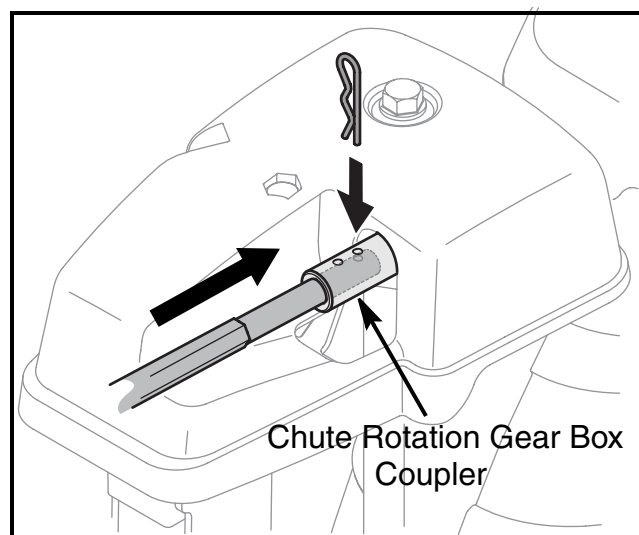

FIGURE 18
30. Push the hex rod toward the control panel until the hole in the hex rod lines up with the hole in the chute rotation gear box coupler closest to the chute rotation gear box and insert the cotter pin. See Figure 18.